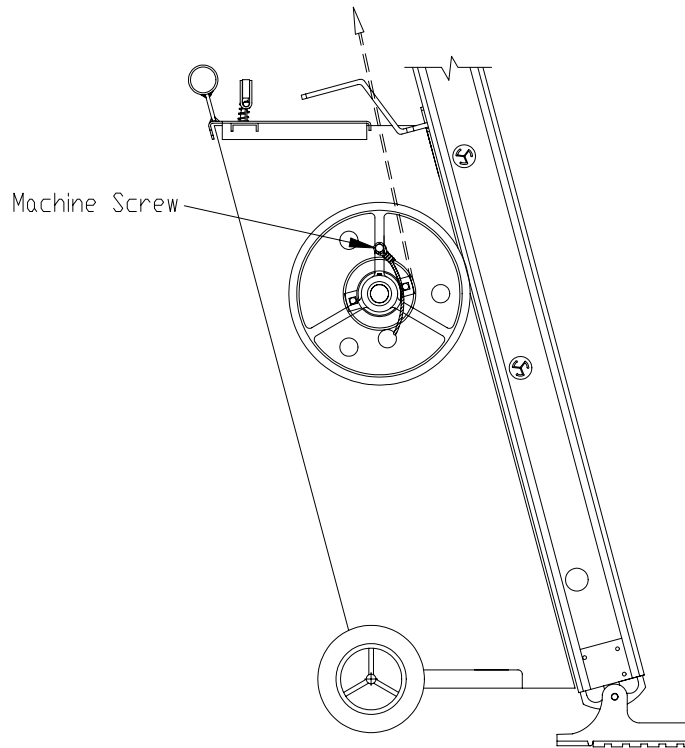

Figure 6-2.
- Refer to Figure 6-2. Each end of the wire rope is equipped with loops. The small loop is attached to the brake sheave by passing it through the hole and bending it back against the pull or load. It is snubbed over the web of the sheave and fastened to the sheave with the screw provided. The large loop is used for attaching loads with a shackle and hook. On platform units, the hook is mounted on the platform or top bracket, and the loop is slipped over the hook.